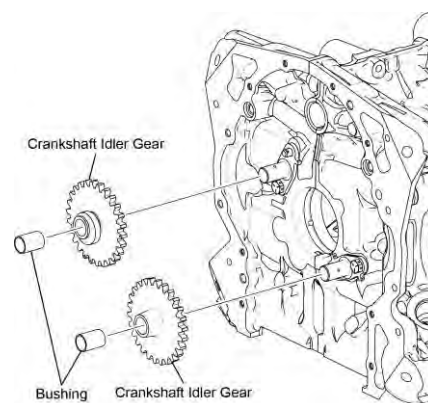

Figure 1
- (1) Remove the idler gears and bushings (Figure 1) from the idler gear shafts.
- (2) Discard the bushings.